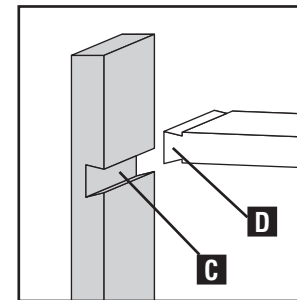

Fig. 7
The Dovetail Dado, or Sliding Tapered Dovetail (Fig. 7), consists of a dovetail-shaped dado (C) in one board and a dovetail-shaped tenon (D) in the other board.